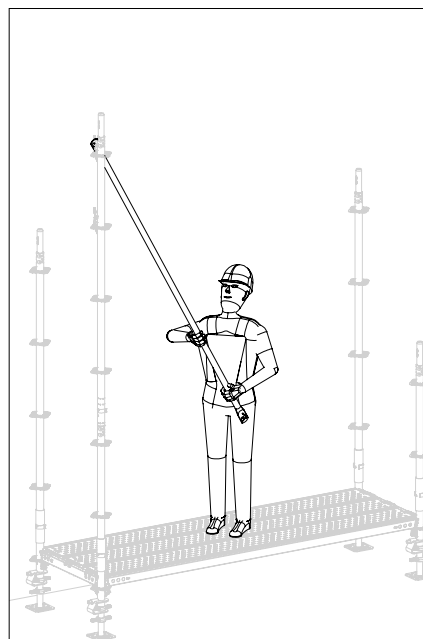
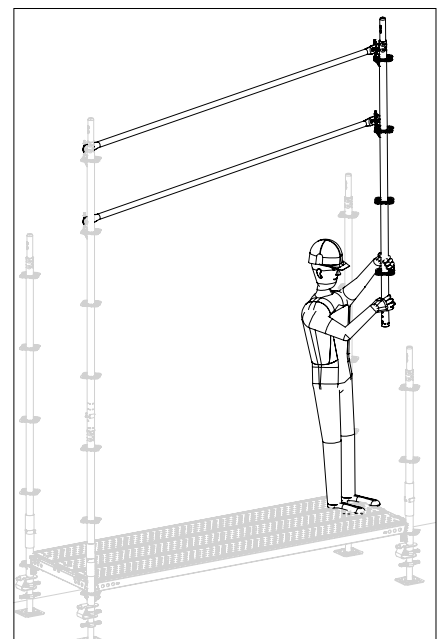

Fig. A5.09a
Fig. A5.09b
- The assembly can also be carried out "advanced" and "double-advanced" with guardrails and intermediate guardrails. (Fig. A5.09a + Fig. A5.09b)